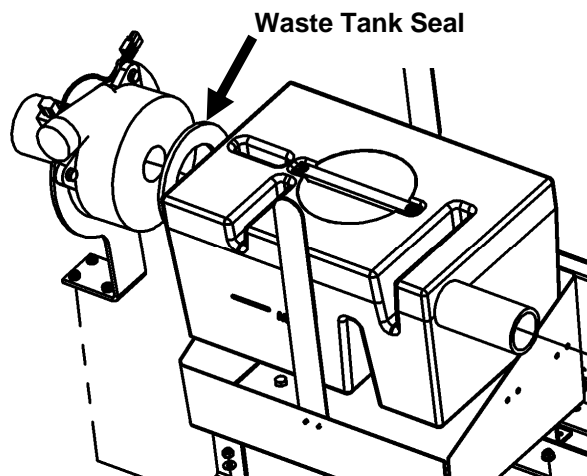

Figure 4-23
2. Remove the waste tank from the machine to expose the waste tank seal (see Figure 4-23).